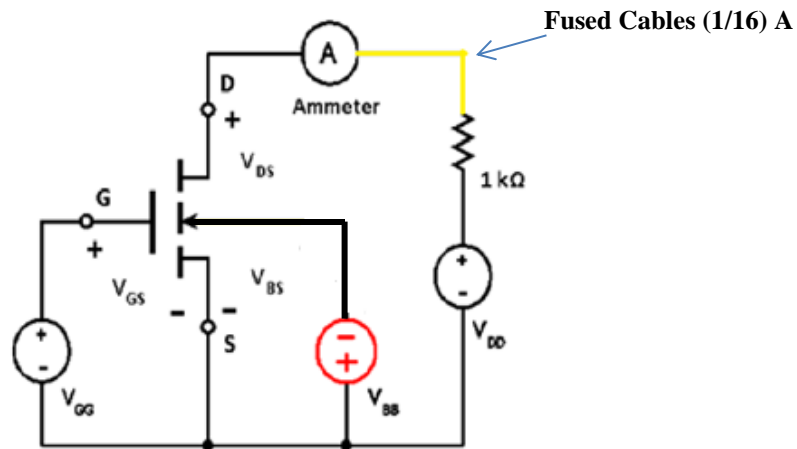

Figure 6. Circuit to study the effect of body bias on MOSFET threshold voltage.
- Connect the circuit shown in figure 6 using the Q4 device on your IC (it is an N-MOSFET). Please remember that V_{GS} must be positive, V_{DS} must be positive, and V_{BS} must be negative at all times! Correspondingly, note the polarity marks on the dc sources V_{GG} , V_{DD} , and V_{BB} .